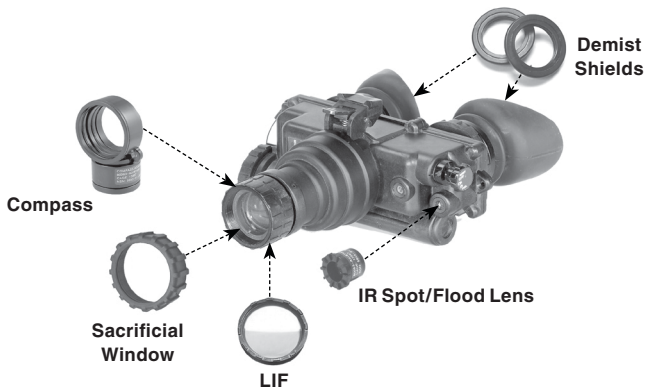

Figure 2-3. Installation of Demist Shields, Sacrificial Window
D. Installation of the Demist Shields. Perform the following procedure to install the demist shields on the diopter lenses. Refer to Figure 2-3.
E. Installation of the sacrificial Window. Perform the following procedure to install the sacrificial window. Refer to Figure 2-3.
4. Press the compass assembly onto the objective lens at an angle using your left hand. Slowly turn the compass assembly counterclockwise until it is in the vertical position (with compass illumination button pointing down). See Figure 2-3.